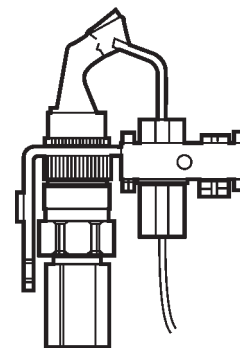
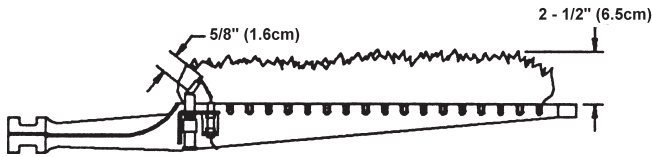

FIGURE 14
FIGURE 15
At least once a year, check the pilot burner, fig. 14, and the main burner, fig. 15, for proper operation. Refer to the following pilot and main burner sections.
- The pilot flame should envelop sensing device with 5/8" (1.6cm) flame, fig. 15. Remove pilot adjustment cover screw, fig. 16. Turn inner adjustment screw clockwise to decrease, or counterclockwise to increase pilot flame. Be sure to replace cover screw on gas valve after adjustment to prevent possible gas leakage.
The main burner, fig. 15, should display the following characteristics: